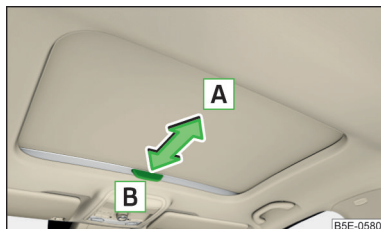

Fig. 62
- › To open, pull the handle in the direction of arrow **A** » Fig. 62.